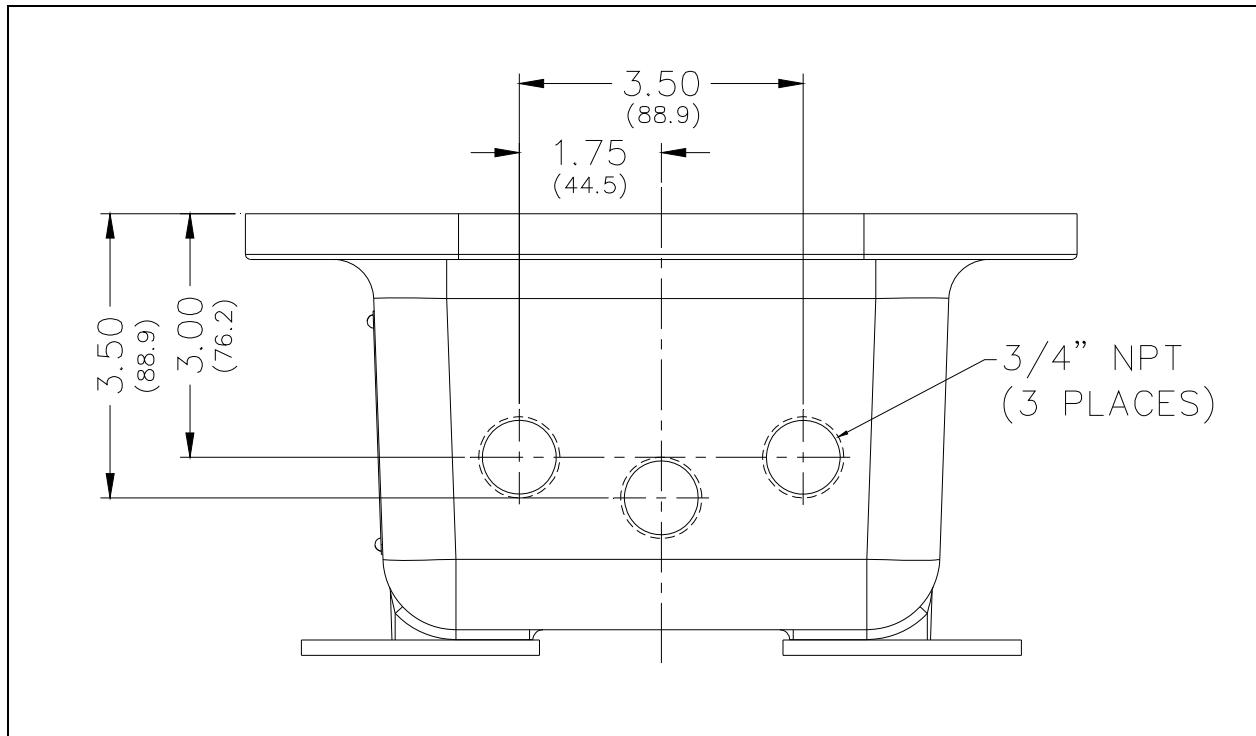

Figure 11. Model 352-7xx and 352-8xx Series VoIP/WiFi Conduit Entries
- Conduit NPT plugs (blanking elements) must be explosion-proof with a Type 4X rating (see Figure 11).